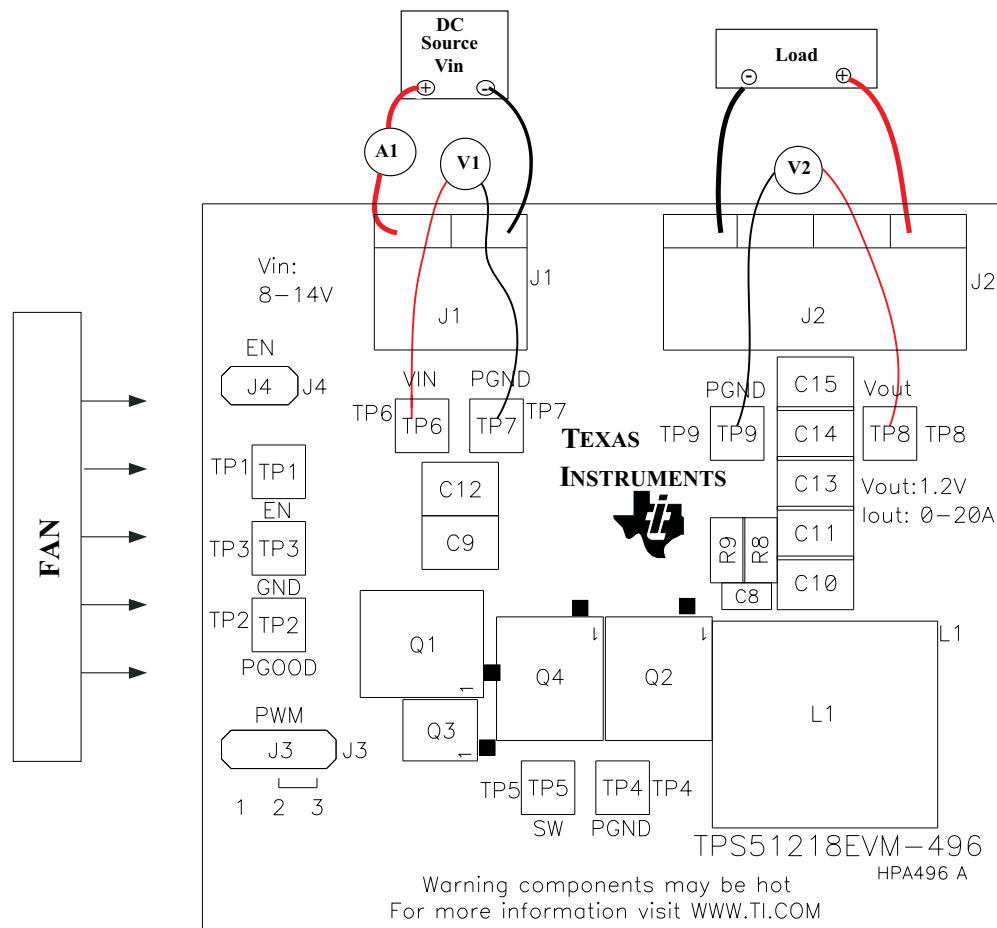

Figure 3. TPS51218EVM Recommended Test Setup
Voltage Source: The input voltage source V_{in} must be a 0-V to 14-V variable dc source capable of supplying 10 A dc. Connect V_{in} to J1 as shown in Figure 3.
Multimeters: A 0-V to 15-V voltmeter must be used to measure V_{in} at TP6 (V_{in}) and TP7 (PGND) and a 0-V to 5-V voltmeter for V_{out} measurement at TP8 (V_{out}) and TP9 (PGND). A 0-A to 10-A current meter (A1) as shown in Figure 3 is used for input current measurements.
Figure 3 shows the recommended test setup to evaluate the TPS51218EVM. Working at an ESD workstation, ensure that any wrist straps, bootstraps, or mats are connected referencing the user to earth ground before power is applied to the EVM.
1. Prior to connecting the dc input source V_{in} , it is advisable to limit the source current from V_{in} to 10 A maximum. Ensure that V_{in} is initially set to 0 V and connected as shown in Figure 3.
Place a fan as shown in Figure 3 and turn it on, making sure that air is flowing across the EVM.